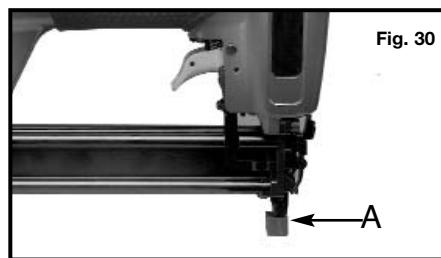

Fig. 30
A rubber nose cushion (A) Fig. 30 is provided to reduce marring of the work surface. The rubber cushion can be removed, and stored inside the magazine (B) Fig. 31 when it is not required.